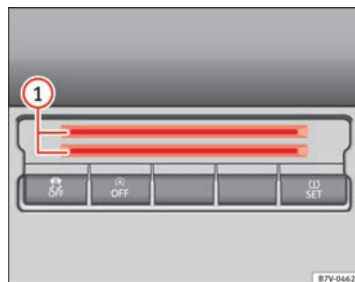

Fig. 107 Centre console, lower section: card compartment.
To the bottom of the centre console there is a compartment ⇒ fig. 107 ① for coins, cards, car park tickets and similar items.